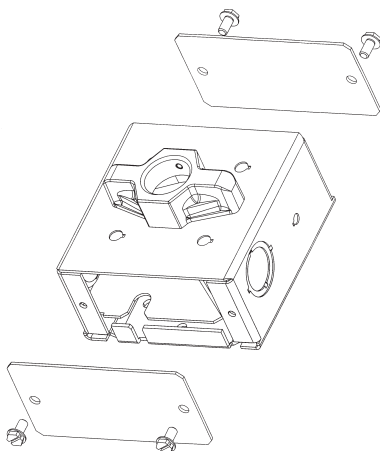

Figure 2
5. Replace the Wire Box End Covers. Insert and securely retighten the End Cover Screws as shown in Figure 2.
- 1.A. For Nuvation™ with Dimming Option, remove both wiring box doors (Figure 2) for electrical connections and box removal.
Dimming control is accomplished by connection to the VIOLET + AND GRAY - Wires in the wiring box (Figure 2). See Diagram A for wiring schematic.